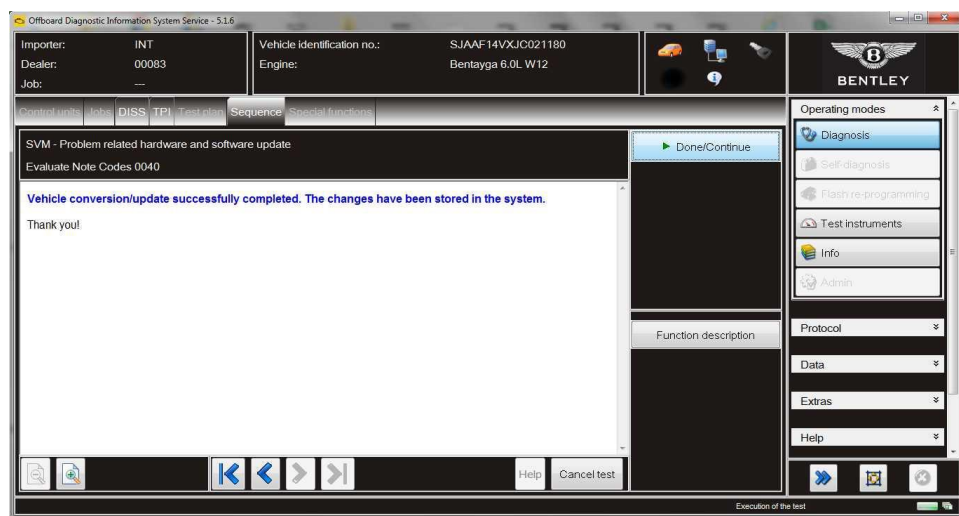

Figure 7
7. You will then see a confirmation message that the reprogramming has been successful (Figure 7).